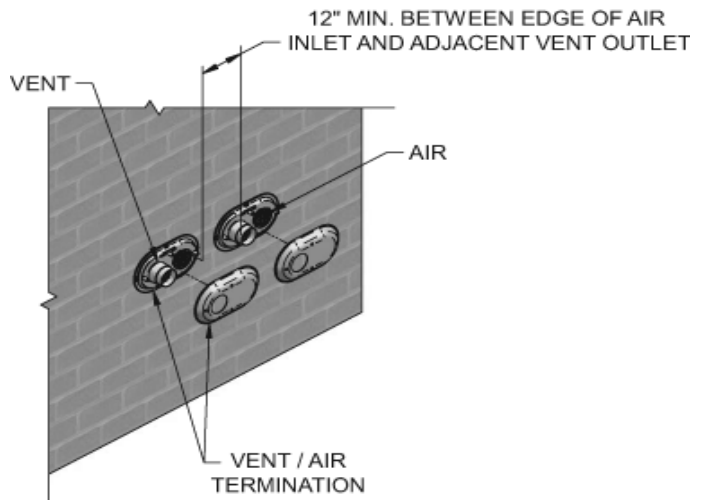

Figure 33. Multiple Vent Terminations (must also comply with Figure 22)
1. When terminating multiple XP water heaters terminate each vent/air connection as described in this manual (Figure 33).
2. Place wall penetrations to obtain minimum clearance of 12 inches between edge of air inlet and adjacent vent outlet, as shown in Figure 33 for U.S. installations.